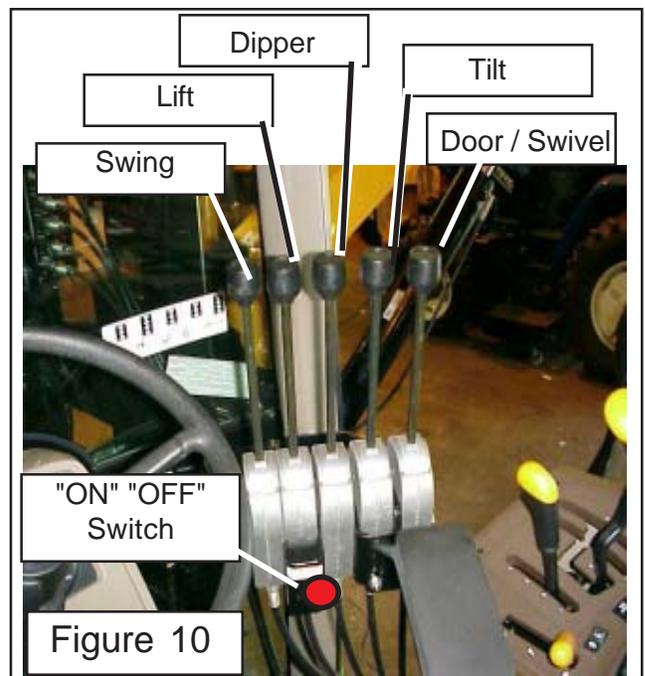

Figure 10
**11. Stack Control Handles.** Each cable control handle will attach to the cable in the same way. The control handles will be stacked together in the proper order (See Figure 5 & 10). These control handles will be stacked with the mounting brackets and electrical switch brackets between them. Where the brackets are located in the group can vary. Shown in figure 10 is the recommended placement of these brackets. The bracket that mounts the control handles is slotted to allow for the adjustment of the angle of the control handle assemblies.
**12. The "ON" / "OFF" Switch** is bolted to the Control Handles. This is a good place but can be mounted somewhere else is desired. If Mounted somewhere else keep in mind it must be accessible quickly by the operator in case of emergency needs. (See Figure 10)